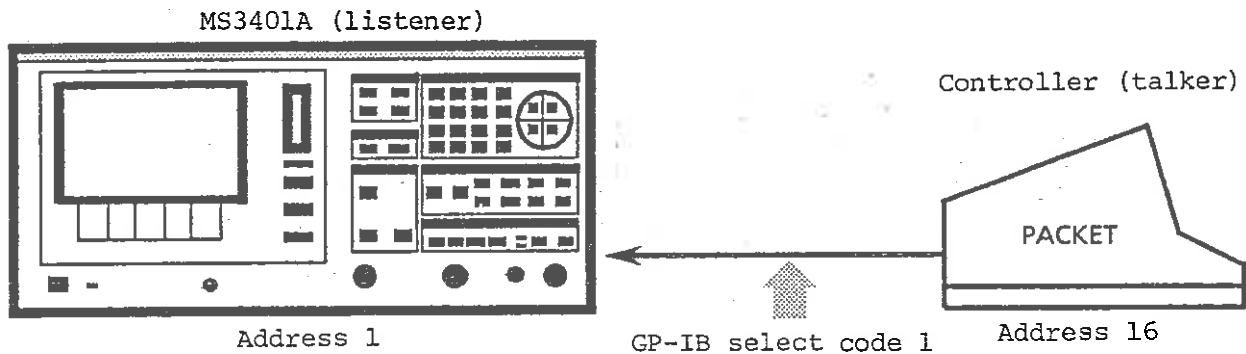
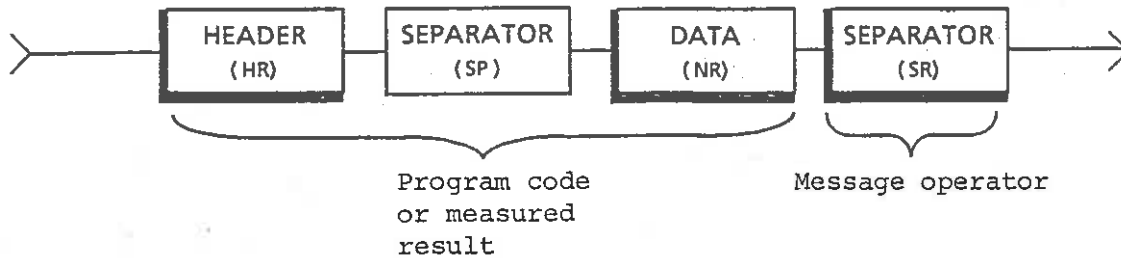

Fig. 9-1 Device Data Transmission
Fig. 9-2 Device Message General Format
To set CF to 1 MHz and SPAN to 100 kHz by using the PACKET controller, after the MS3401A Network analyzer is initialized, write a program using WRITE @ statement (Fig. 9-1).
INI, CNF, and SPF in Fig. 9-1 correspond to the HEADER in Fig. 9-2. HEADER is the most device-dependent part of the device data. The header and the space + control data following the header can be used as one program code. However, these codes can also be used as data codes under the same standard for using ASCII code even if the type of device and manufacturer are different.
A standard has also been established for the message format when these program codes are sent from talker to listener. The message format is described with reference to the example shown in Fig. 9-1.
3. The CR LF code is used at the end of the messages on one line to indicate the end. (Because the message shown in Fig. 9-1 is a WRITE @ statement, CR LF is added automatically.)
With reference to the two messages, CNF and SPF, shown in Fig. 9-1, each message always begins with an upper-case alphabetic character which determines what is to be set. When this character is followed by numeric data, it determines how the numeric data is to be used.
A general description of how the four sections are used is shown in Fig. 9-2.